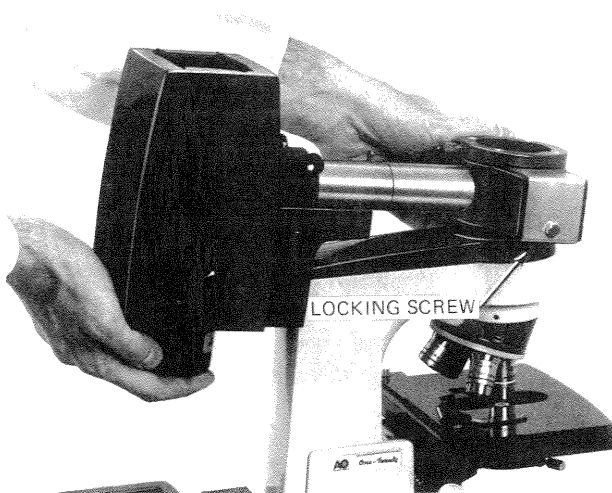

Figure 10. Attaching Lampholder
8. Place the assembled #2071 Vertical Illuminator module on your Series One-Ten or One-Twenty Microscope in place of the binocular or trinocular body. Make sure the assembled unit is seated firmly, and then tighten the locking screw at the top of the microscope arm (Figure 10). Tighten set screws until they touch microscope arm (Figure 6).